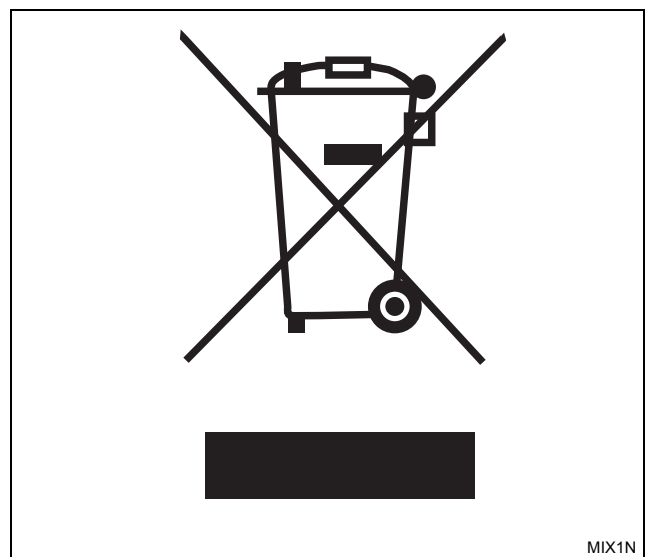

Figure 25
- The symbol “crossed out bin on wheels” (*Figure 25*), invites you to make use of these systems.
- Please, consider that the WEEE directive is generally only available for household machines. In some countries professional machines are added, in others not. Therefore, the symbol (*Figure 25*) may not be present.